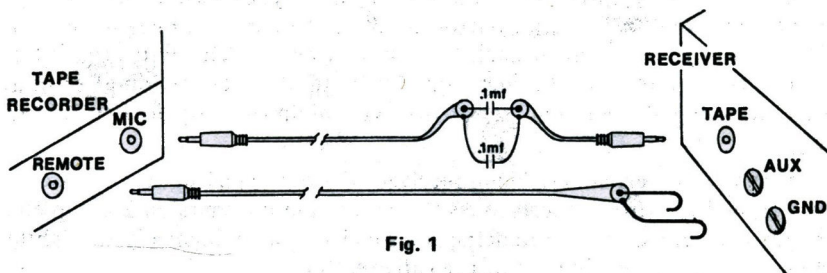

Fig. 1
2. Connect the control wires from the cassette recorder "Remote" jack to the AUX. and GND. terminals as shown in Fig. 1. If the recorder, set to "play", starts with the receiver OFF, the wires should be reversed. NOTE: Recorder should not be grounded to radio or other device in any manner.
- Connect the Tape output of the BC-250 to the "mic" input of the recorder as shown in Fig. 1. To isolate the recorder ground from the scanner, coupling capacitors should be used in the ground and center conductors as shown. **Alternate:** Sound may be recorded by placing the microphone near the receiver speaker if preferred.